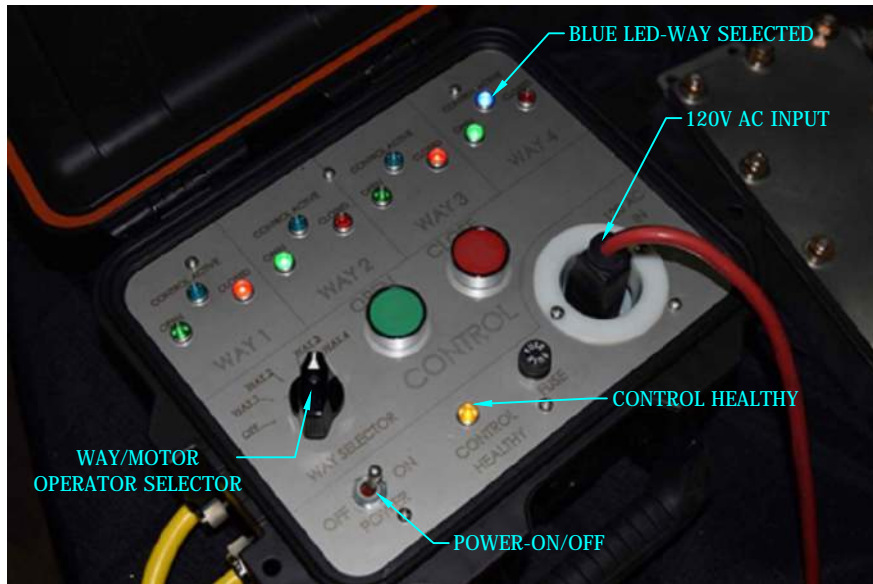

FIGURE 15
L. PENDANT CONTROLLERS ARE PROVIDED TO POWER AND CONTROL ALL THE MOTOR OPERATORS FROM OUTSIDE THE ENCLOSURE. THESE PORTABLE CONTROLLERS ARE DESIGNED TO PROVIDE FIELD PERSONNEL THE ABILITY TO PLUG INTO A JUNCTION BOX TO DETERMINE STATUS OF ALL THE MOTORS AND TO CONTROL MULTIPLE MOTOR OPERATORS LOCALLY WITH EXTERNAL 120V AC POWER PLUGGED INTO THE PENDANT CONTROL. **CAUTION:** THE "CONTROL HEALTHY" LIGHT WILL ONLY LIGHT WHEN THE TOGGLE SWITCH IS TURNED ON AND WHEN CONNECTED TO A "PURE SINE WAVE" SOURCE OF 120V AC POWER. SQUARE SINE WAVE OR MODIFIED SINE WAVE INVERTERS WILL NOT POWER THIS DEVICE AND MAY DAMAGE THE CONTROL. SEE FIGURE 15.